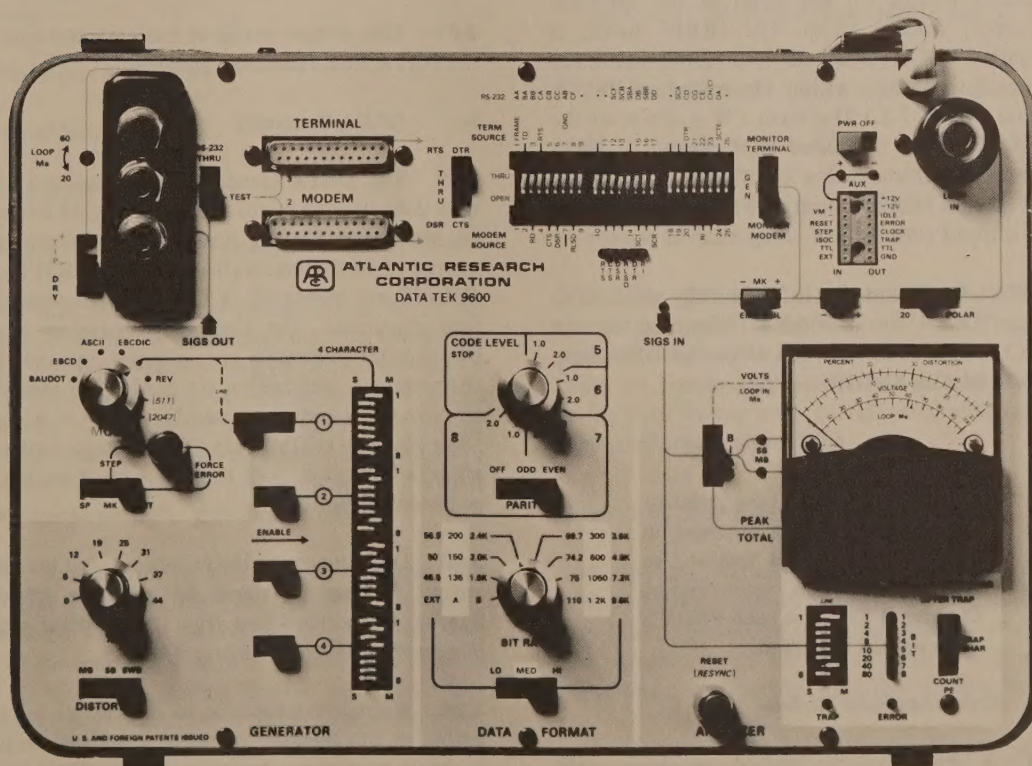

Figure 2-1. DTS-1 In Vertical Operating Position.
2.01 The front panel of the DATA TEK is shown in Figure 2-1. The panel is divided into five functional groups of controls and indicators as follows: